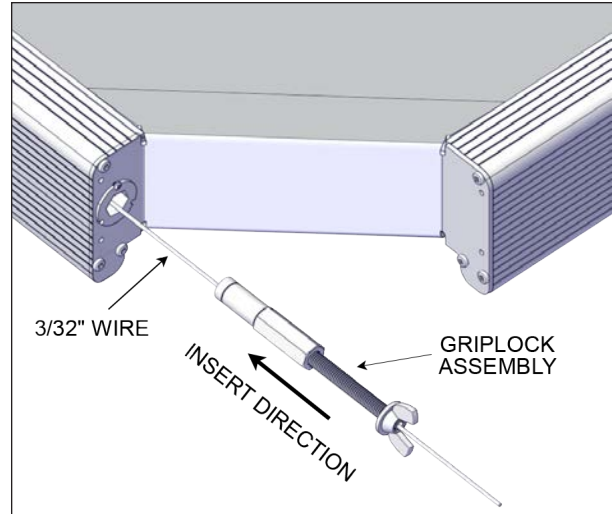

FIGURE 60: GRIPLOCK INSTALLATION
7. Run the wire through the Griplock, see Figure 60.